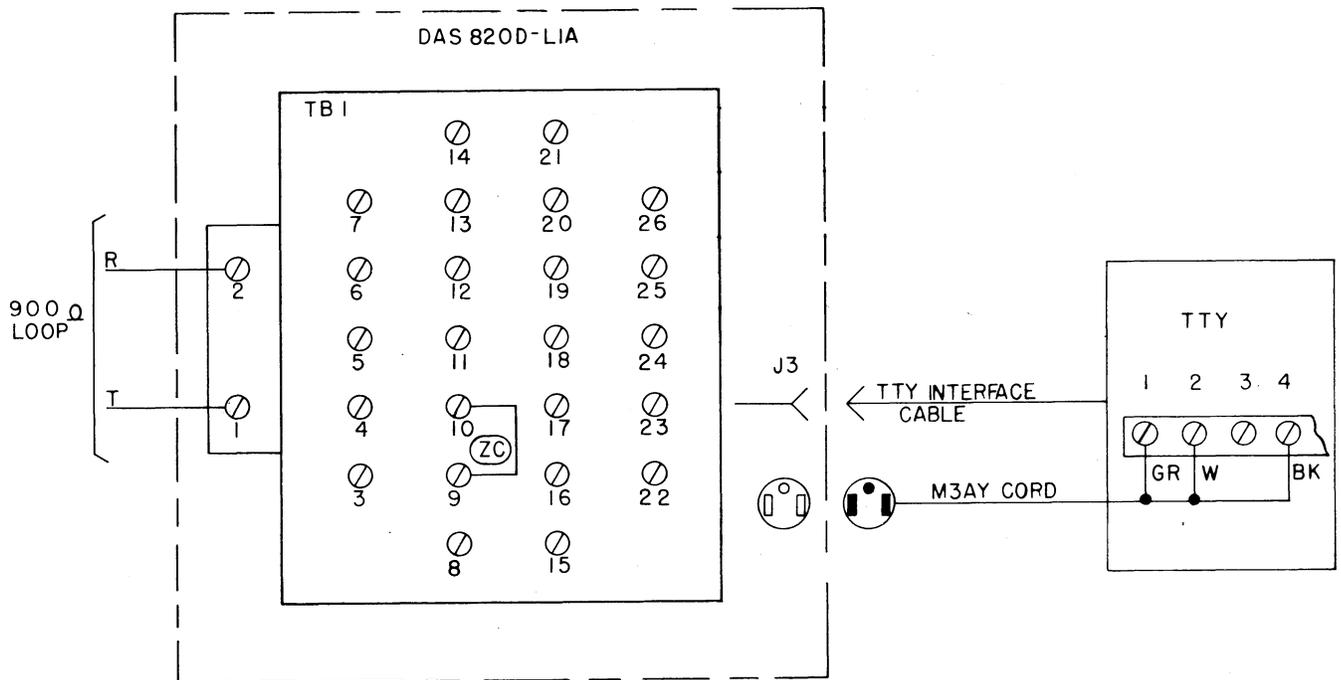

Figure 5 - Wiring Connections to DAS 820D-L1A for Data Set 108 Type
5.15 Connect interface cable TP336601 to connector J3 of DAS 820D-L1A (Figure 5). For the connection of the remote test key and lamp refer to Section 591-023-210.